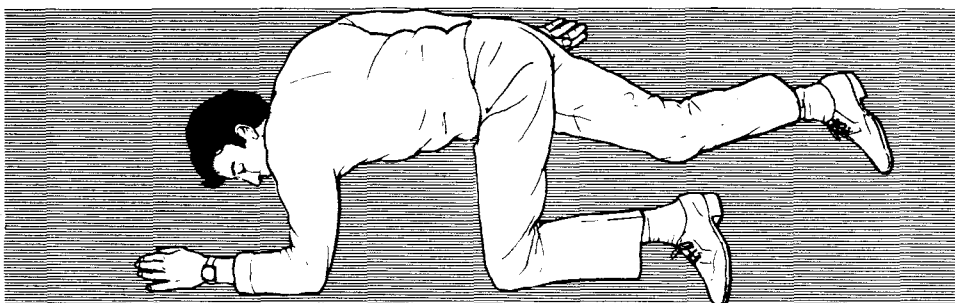

Fig 3.9 The recovery position
- Roll him over into the 'recovery' position (Fig 3.9). The rear arm should be drawn gently backwards to extend slightly behind the person's back.
- If breathing continues unassisted but the patient remains unconscious, place him in the 'recovery' position (Fig 3.9).